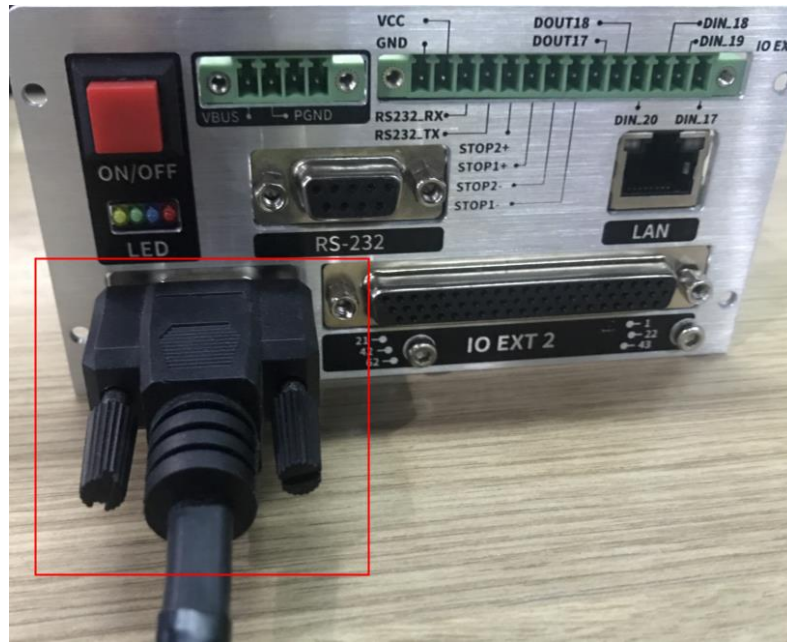

Figure 5.7 Connect to Dobot M1
- Step 3** Connect the other end of the power supply output cable to the power interface on the base of Dobot M1, as shown in Figure 5.7.